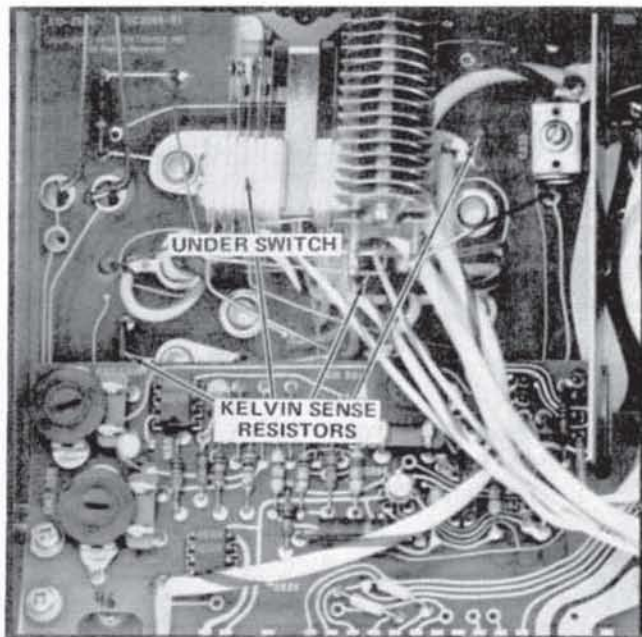

Fig. 4-1. Location of Kelvin sense resistors.
*Connecting the device under test to the test fixture in a manner that causes current flow in the Kelvin sensing resistors can burn out these resistors. See Fig. 4-1 and the Kelvin Sensing Check in the Troubleshooting section.*